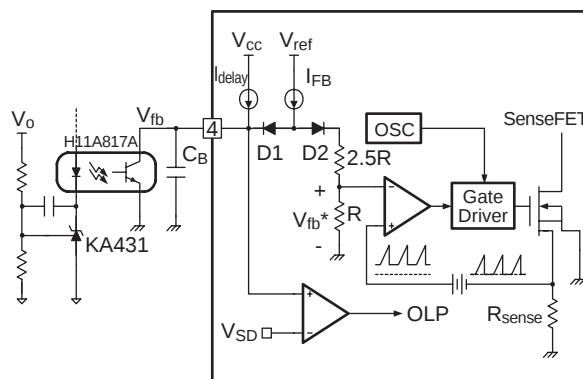

Figure 11. Pulse Width Modulation (PWM) Circuit
3. Feedback Control: The FSCQ-Series employs current mode control, as shown in Figure 11. An optocoupler (such as Fairchild's H11A817A) and shunt regulator (such as Fairchild's KA431) are typically used to implement the feedback network. Comparing the feedback voltage with the voltage across the Rsense resistor plus an offset voltage makes it possible to control the switching duty cycle. When the reference pin voltage of the KA431 exceeds the internal reference voltage of 2.5V, the H11A817A LED current increases, pulling down the feedback voltage and reducing the duty cycle. This event typically happens when the input voltage is increased or the output load is decreased.
3.1 Pulse-by-Pulse Current Limit: Because current mode control is employed, the peak current through the SenseFET is limited by the inverting input of the PWM comparator (V_{fb}^*) as shown in Figure 11. The feedback current (I_{FB}) and internal resistors are designed so that the maximum cathode voltage of diode D_2 is about 2.8V, which occurs when all I_{FB} flows through the internal resistors. Since D_1 is blocked when the feedback voltage (V_{fb}) exceeds 2.8V, the maximum voltage of the cathode